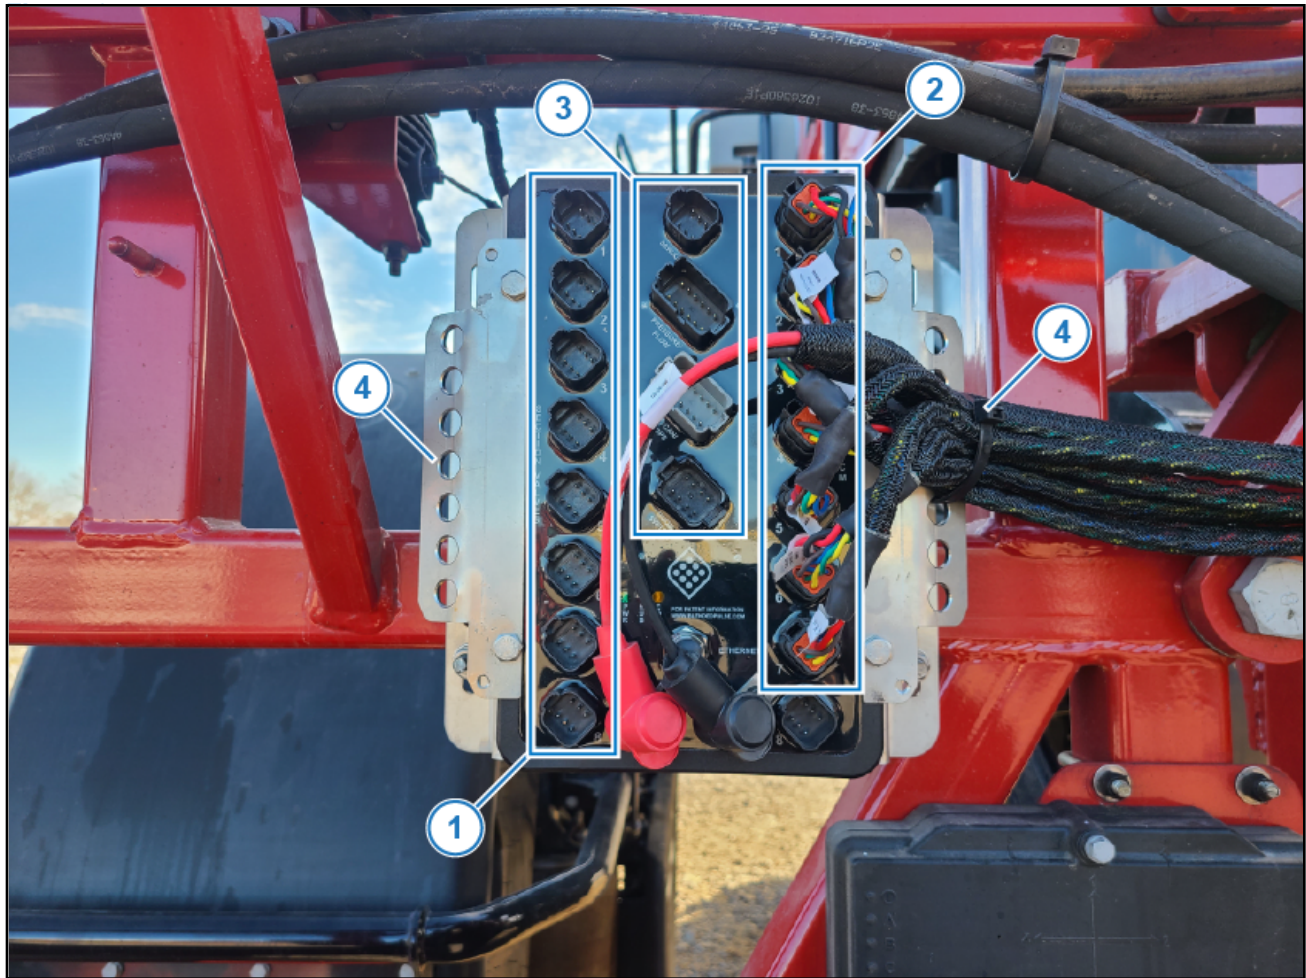

Figure 6: Envelop Hub Connections
7. Plug each Boom Shutoff Harness (Figure 6, Item 1) and VCM Extension Harness (Figure 6, Item 2) connector into their appropriately labeled ports on the Envelop Hub.
8. Plug the Chassis Harness into the Envelop Hub's Servo, Pressure/Flow, and ISOCAN/GPS ports (Figure 6, Item 3).
10. Zip tie harnesses to strain relief brackets (Figure 6, Item 4) so that there is a small amount of slack in the hub side wiring.